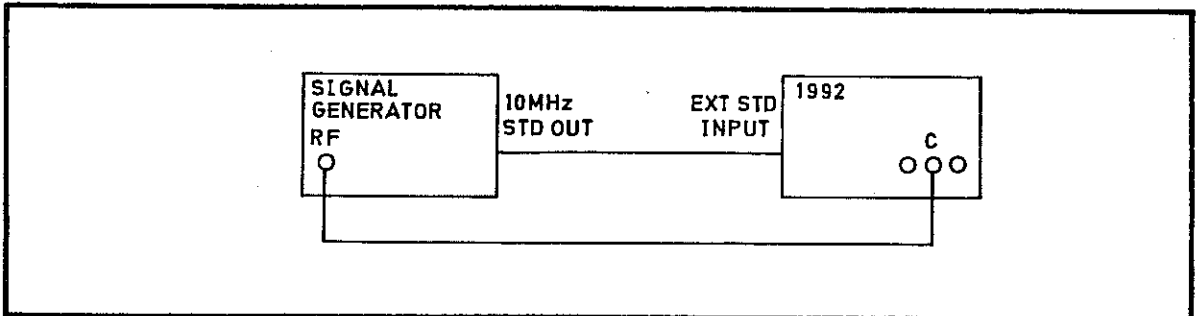

Fig 7.19 Connections for Channel C Sensitivity PVP
- (1) Connect the test equipment as shown in Fig 7.19.
- (2) Select FREQ C.
- (3) Set the signal generator output to the frequencies shown in Table 7.8 in turn. Set the 1991/92 resolution to the corresponding value.
- (4) At each frequency, determine the minimum input level to the 1991/92 which gives stable counting. Verify that this is not more than the level shown in the table.
- (5) Disconnect the test equipment.